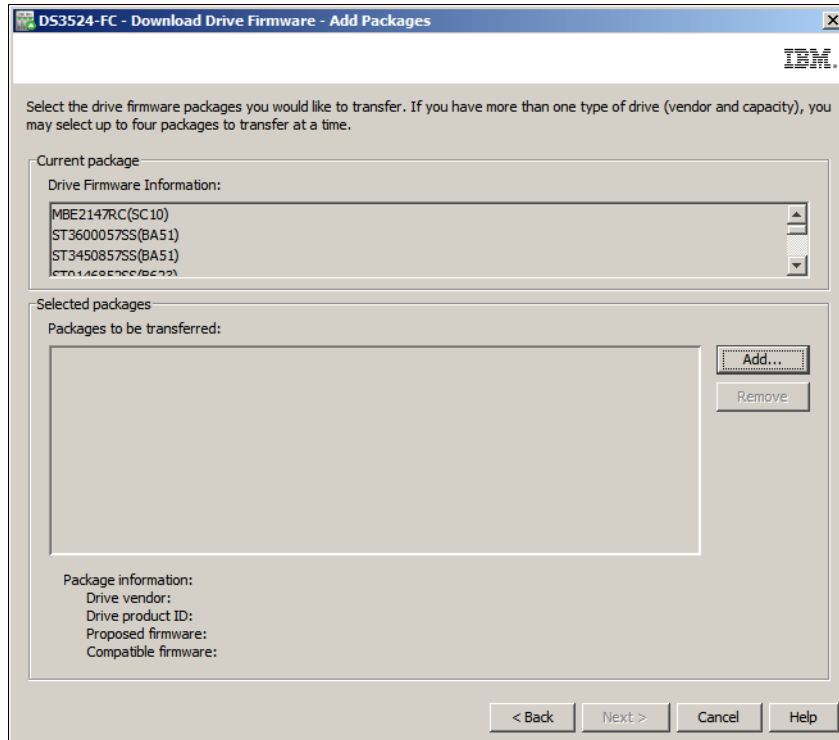

Figure 14-81 Select drive firmware package
2. The **Download Drive Firmware - Add Packages** window appears (Figure 14-81 on page 382). This window has two main sections: